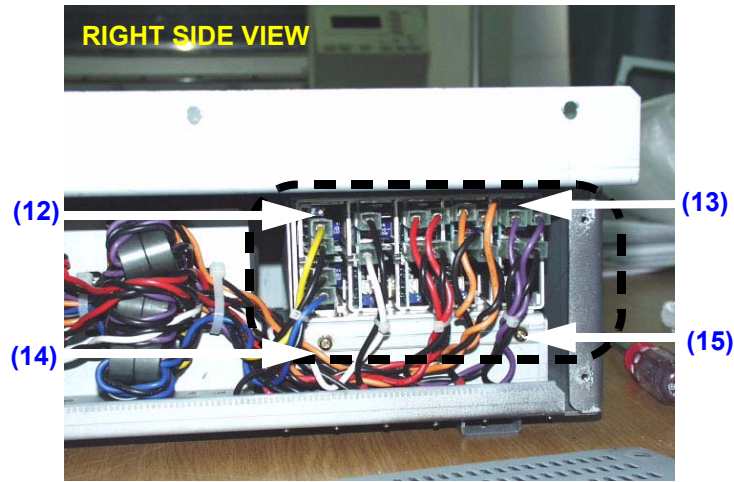

Figure 8-128 Unscrew 4 screws and disconnect 20 connectors
- 4.) Unscrew four (4) screws (12-15) and disconnect twenty (20) connectors from the front side of the LV unit using long-nose gripper. Refer to Figure 8-128 on page 8-78 .